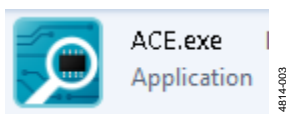

Figure 3. `ACE.exe` Shortcut Icon
1. Double-click the ACE shortcut (see Figure 3) available under the `C:\Program Files (x86)\Analog Devices\ACE` directory.